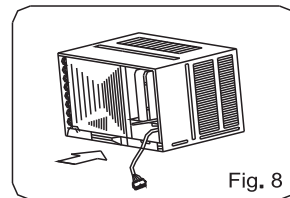

Fig. 8
4. Push the unit chassis into the cabinet (See Fig.8).